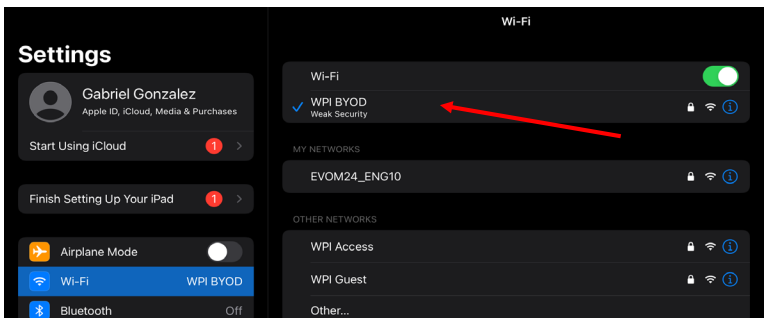
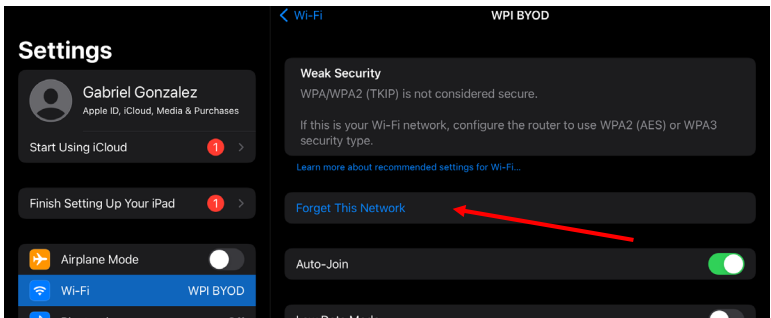

Fig. 68—Locate the WPI BYOD network.
Fig. 69—Click Forget This Network.
3. Navigate on the iPad to *Settings* and choose *Wi-Fi*. If you see the WPI BYOD network, click *Forget WPI BYOD Network* to delete it. See Fig. 68, and Fig. 69.